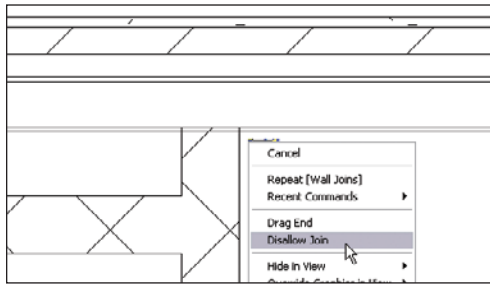

FIGURE 2.60 Pull the CMU out of the wall, disallow the join, and then drag it back into the face of the stud.
5. Pick the blue grip and drag the wall end back to the face of the wall behind the gypsum (see Figure 2.60).